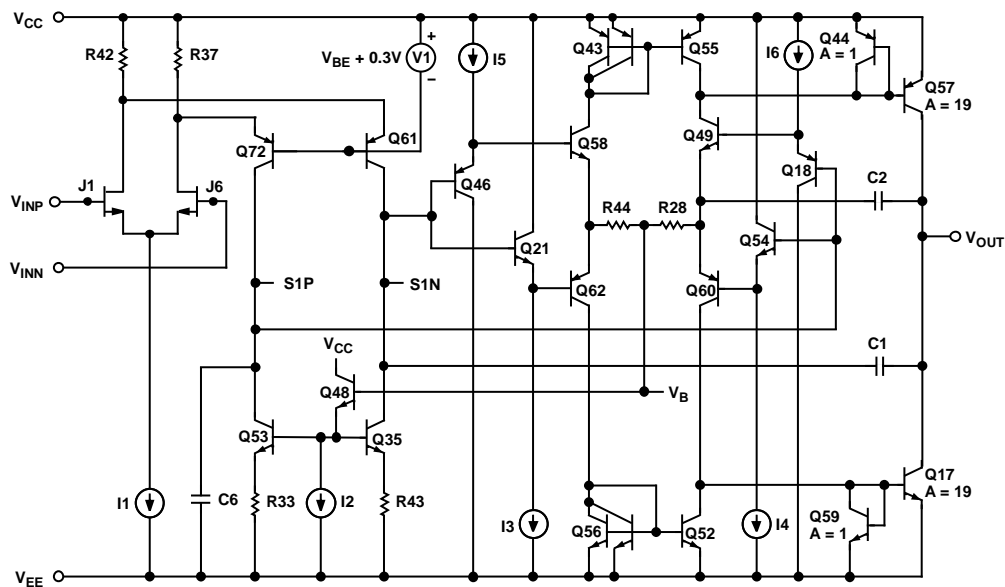

Figure 36. Simplified Schematic
The AD823 is fabricated on the Analog Devices, Inc. proprietary complementary bipolar (CB) process that enables the construction of PNP and NPN transistors with similar  $f_T$ 's in the 600 MHz to 800 MHz region. In addition, the process also features N-Channel JFETs that are used in the input stage of the AD823. These process features allow the construction of high frequency, low distortion op amps with picoamp input currents. This design uses a differential output input stage to maximize bandwidth and headroom (see Figure 36). The smaller signal swings required on the S1P/S1N outputs reduce the effect of the nonlinear currents due to junction capacitances and improve the distortion performance. With this design, harmonic distortion of better than  $-91$  dB @ 20 kHz into  $600\ \Omega$  with  $V_{OUT} = 4$  V p-p on a single 5 V supply is achieved. The complementary common emitter design of the output stage provides excellent load drive without the need for emitter followers, thereby improving the output range of the device considerably with respect to conventional op amps. The AD823 can drive 20 mA with the outputs within 0.6 V of the supply rails. The AD823 also offers outstanding precision for a high speed op amp. Input offset voltages of 1 mV maximum and offset drift of  $2\ \mu\text{V}/^\circ\text{C}$  are achieved through the use of the Analog Devices advanced thin film trimming techniques.